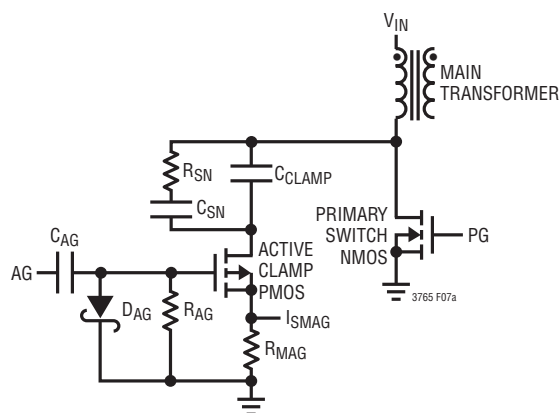

Figure 7a. Traditional AG and PG Driver Configuration
The active clamp gate driver (AG) and the primary switch gate driver (PG) are “in-phase,” with a programmable overlap time set by the DELAY pin. Traditionally in active clamp drivers, the AG driver must be level-shifted as shown in the circuit in Figure 7a to drive the active clamp PMOS gate from approximately  $V_D$  to  $-V_{CC} + V_D$ , where  $V_D$  is the forward voltage drop across the Schottky diode  $D_{AG}$ . A silicon diode can be used instead of a Schottky barrier diode; however, the forward voltage of the diode does subtract from the available gate drive of the active clamp PMOS. This is particularly important at the minimum  $V_{CC}$  UVLO falling threshold.
Unlike the configuration in Figure 7a, the main transformer leakage current spike and magnetizing current return to the  $V_{CC}$  bypass capacitor. The  $V_{CC}$  capacitor should be increased to prevent excessive ripple on the supply and a low impedance plane should be used to route  $V_{CC}$ . The
The LTC3765 and LTC3766 implement a new unique system for monitoring and directly limiting the flux accumulation in the transformer core. During a reset cycle, when the active clamp PMOS is on, the magnetizing current is sensed by a resistor ( $R_{MAG}$ ) connected to the source of the PMOS. The voltage across this resistor is sensed by the  $I_{SMAG}$  pin. Both the traditional and alternative configurations for the active clamp driver, shown previously in Figures 7a and 7b, are supported. In the traditional configuration, if
In addition to voltage rating, another design constraint on  $C_{CLAMP}$  occurs because of the resonance between the magnetizing inductance of the main transformer with the clamp capacitor. The magnetizing inductance  $L_{MAG}$  and  $C_{CLAMP}$  form a high-Q resonant system that results in a sinusoidal ripple on the capacitor voltage. **To avoid the problems associated with this resonance, always use an RC snubber in parallel with the clamp capacitor as shown in Figures 7a and 7b.** Choose values for the clamp capacitor and the snubber components according to the following equations, where  $f_{SW}$  is the frequency set by the LTC3766 FS pin: